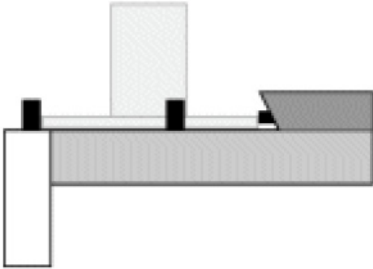

Figure 6-7: Cartridge inserted between plunger and front pins.
13. Push the cartridge against the plunger and then set it down gently on the lens so its positioned between the plunger and the two front pins (Figure 6-7).